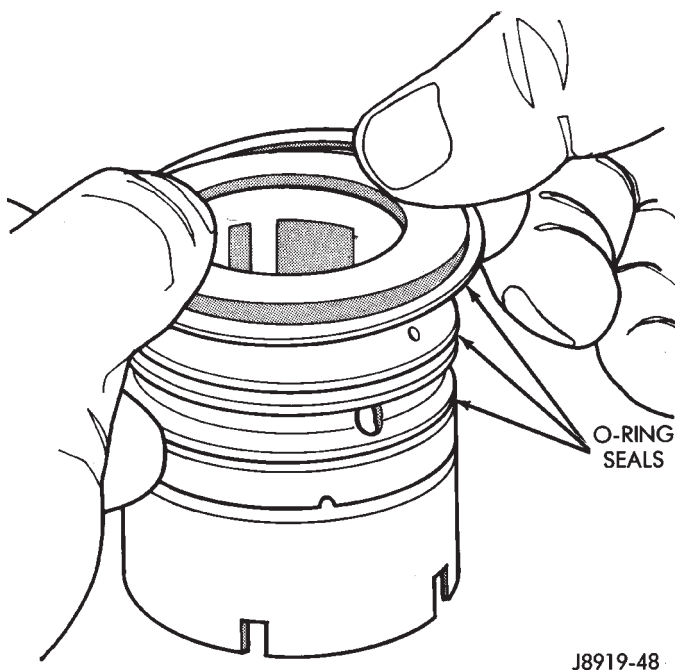

Fig. 16 Valve Seals
(7) Remove spool valve O-ring and valve body teflon rings and O-rings underneath the teflon rings (Fig. 16).